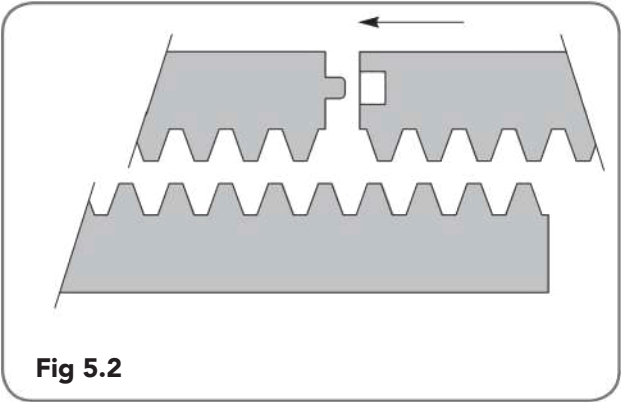

Fig 5.2
- e. When joining subsequent sections of rack, check the mesh by placing a spare section upside down (teeth facing upwards) and putting it into mesh with the racks being joined (Fig. 5.2).